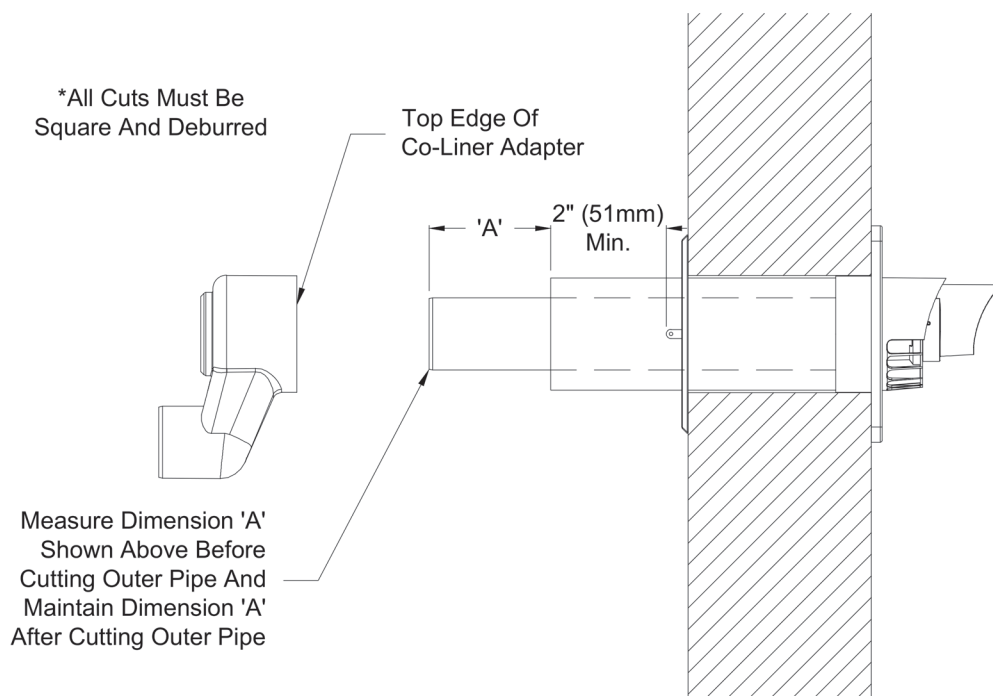

Figure 7.37: Cutting DuraVent PolyPro Horizontal Concentric Vent Terminal
- b. If desired, the terminal can be shortened. Mark the desired location of the cut on the outer pipe no closer than 2" from the edge of the tab on the interior wall plate. Prior to cutting outer pipe measure dimension 'A' of the inner pipe as shown in Figure 7.37 and maintain this dimension after cutting the outer pipe. All cuts must be square and de-burred.